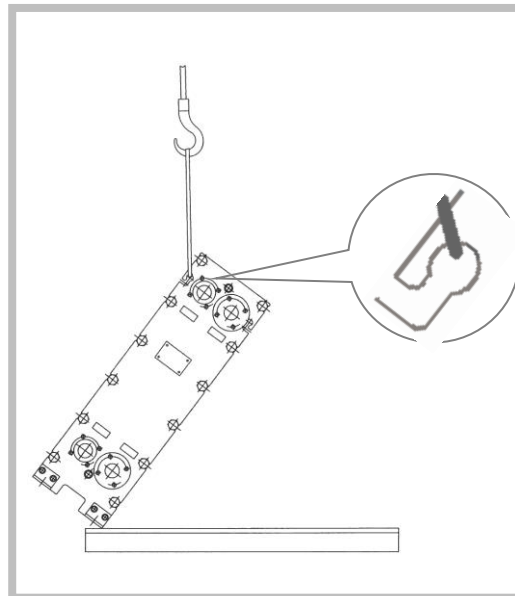

Figure 23
3. Slowly lift the PHE off the pallet with the help of the centre of gravity (Figure 23). Ensure that the lifting means are firm and secure within the suspension eyes.